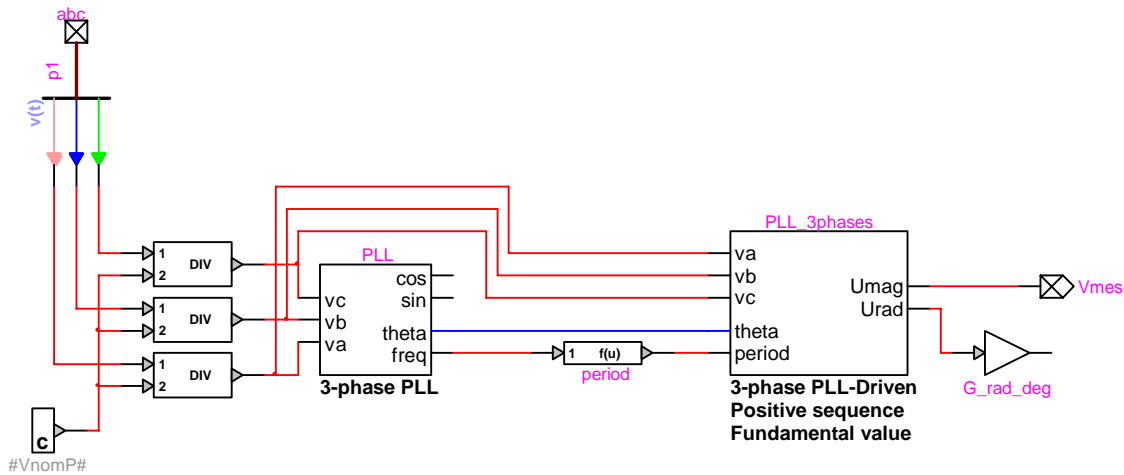

Figure 1-3 Measurement system subcircuit
- ❑ A measurement system (Measurement_System, see contents in Figure 1-3) measuring the positive-sequence voltage to be controlled. A Fourier-based measurement system using a one-cycle running average is used.